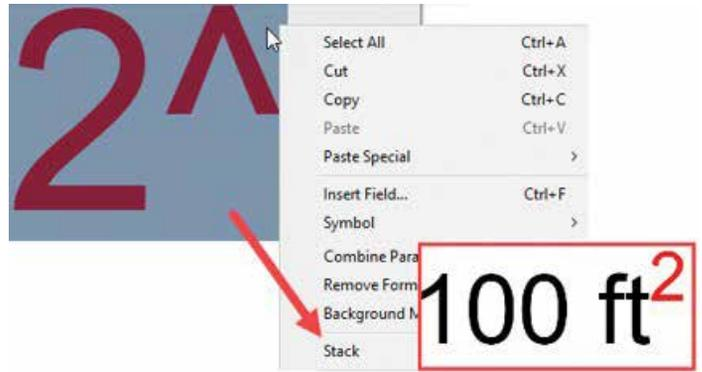

Figure 11
Create the caret character after the number, as shown in Figure 11 (2^).
**Note:** For subscript, place the carrot in front of the number, and follow the same procedure. Using the Multiline text editor, select the exponent value, and the caret (left click, drag, and highlight as shown in Figure 11). Then, right-click to view the shortcut menu and select stack.